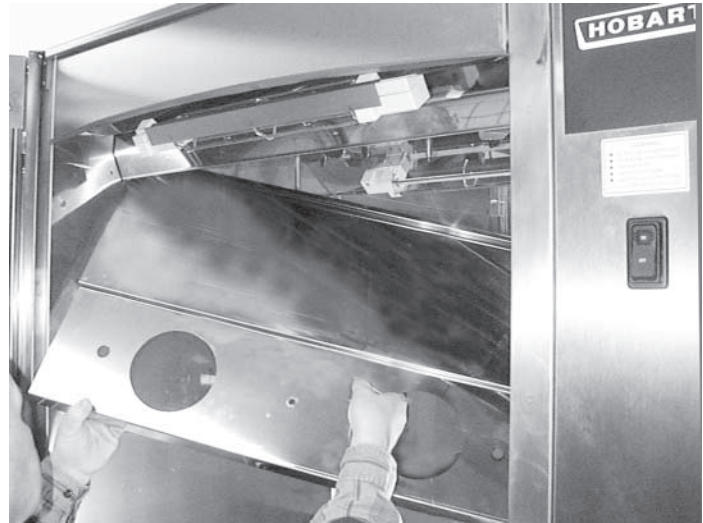

Fig. 69
- Reinstall element cover: Raise left hinge (end of U-channel) up around left hinge pin (Fig. 69).